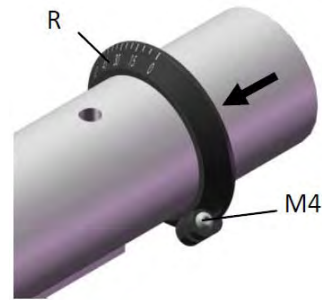

Fig. 19: Mounting the adjustment ring
Step 4: Attach the adjustment ring R to the arm and secure it temporarily with screw M4 (Fig. 19).